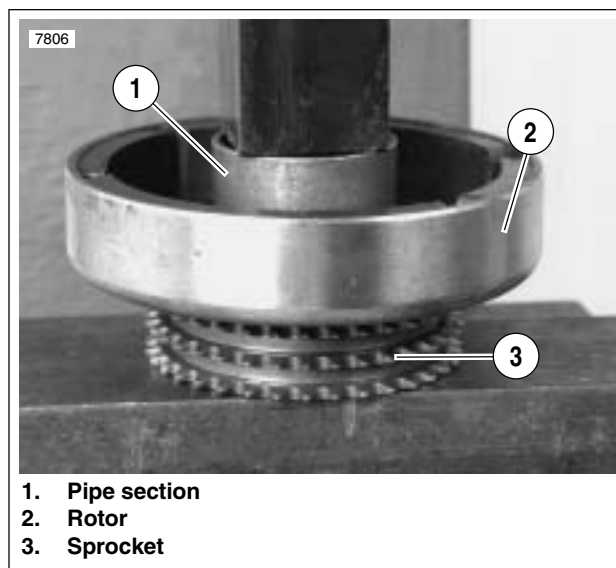

Figure 7-55. Pressing Rotor onto Sprocket
6. See Figure 7-55. Attach rotor to sprocket.